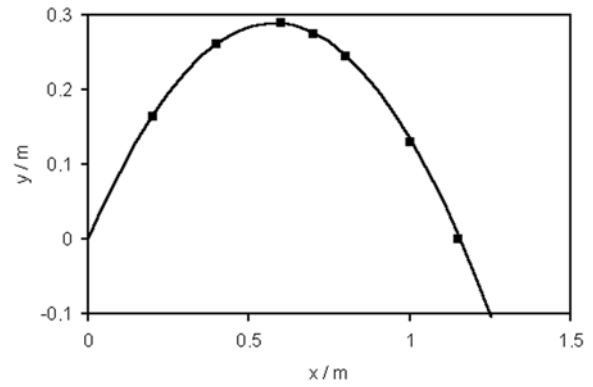

Fig. 3: Comparison of measurements and calculated curve, x = horizontal projectile distance, y = vertical height, symbols = measured values, line = Equation 5
- The launch velocity for the lowest spring tension is therefore approximately 3.37 m/s. This means the trajectory can be calculated using Eq. 5 and the individual measurements plotted against one another. The result is shown in Fig. 3.